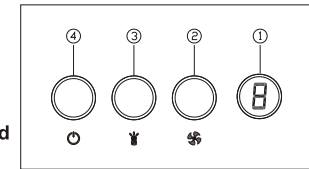

Fig.25
**Note:** Operate switches (Fig.25)